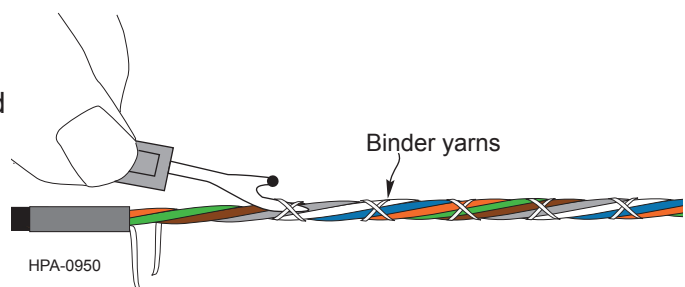

Figure 17
**Step 10:** Using the seam ripper, cut the binder yarns every few inches (Figure 17). Remove the yarns from around the buffer tubes and carefully trim the yarns flush at the tape wraps.